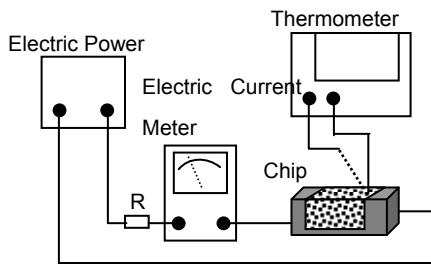

Fig. 5.3.3-1
- Definition of Rated Current (I_r): I_r is direct electric current as chip surface temperature rose just 20°C against chip initial surface temperature (T_a) (see **Fig. 5.3.3-2**)